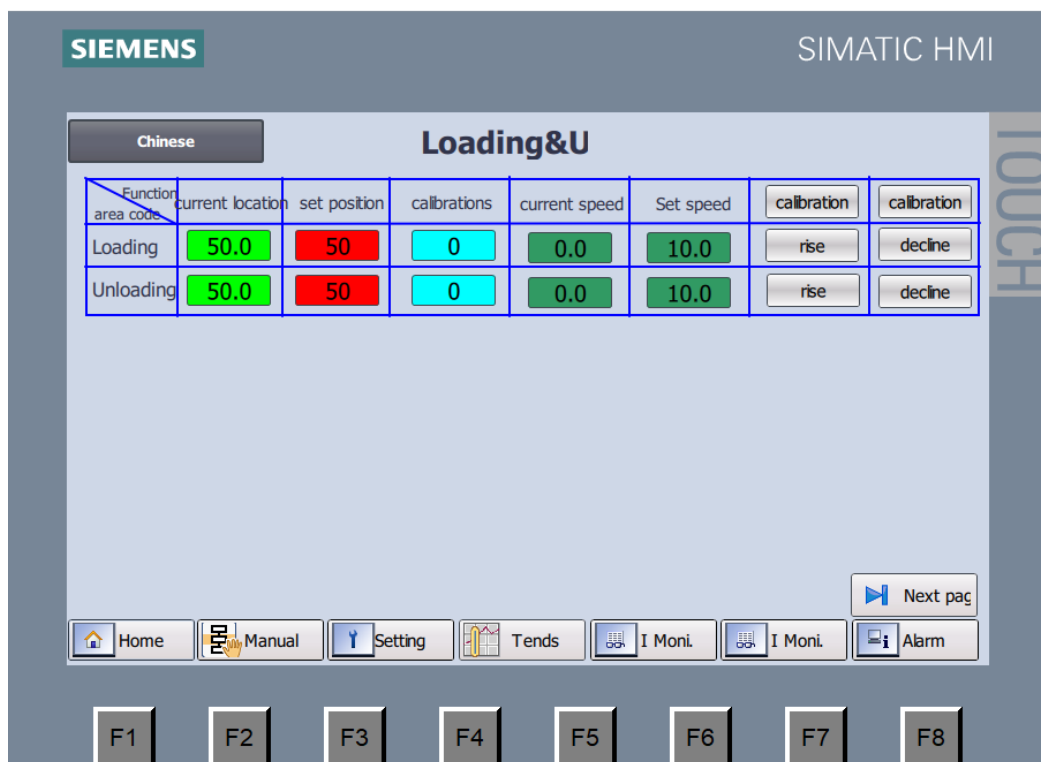

Figure 2-3-7 __
- See Figure 2-3-7 below for details :